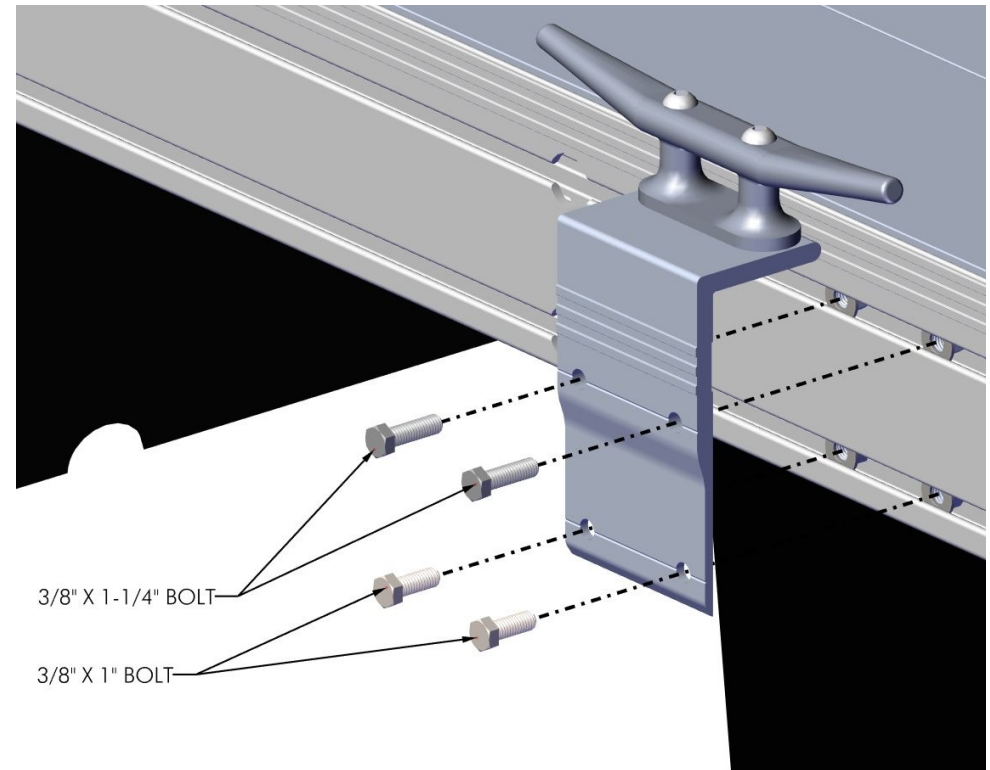

FIG. 2
INSERT (2) 3/8" X 1-1/4" BOLTS IN THE TOP HOLES AND (2) 3/8" X 1" BOLTS IN THE BOTTOM HOLES OF THE ANGLE BRACKET, ALIGN THE BOLTS WITH THE CORRESPONDING NYLOCK NUTS AND FLAT WASHERS PREVIOUSLY INSTALLED. ADJUST TO THE DESIRED LOCATION. TORQUE TO 40 FT-LBS (FIGURE 2)